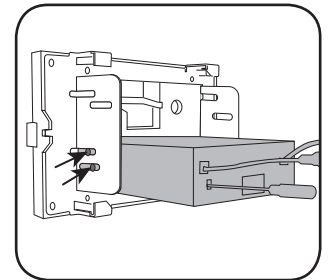

Fig. 3.3
3. Slide the radio chassis into the radio bracket and secure it with the hardware provided with the radio. (Fig. 3.3)